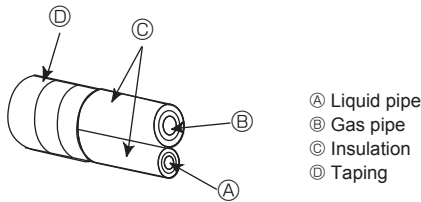

Fig. 4-2
4.3. Connecting pipes (Fig. 4-2) (Fig. 4-3)